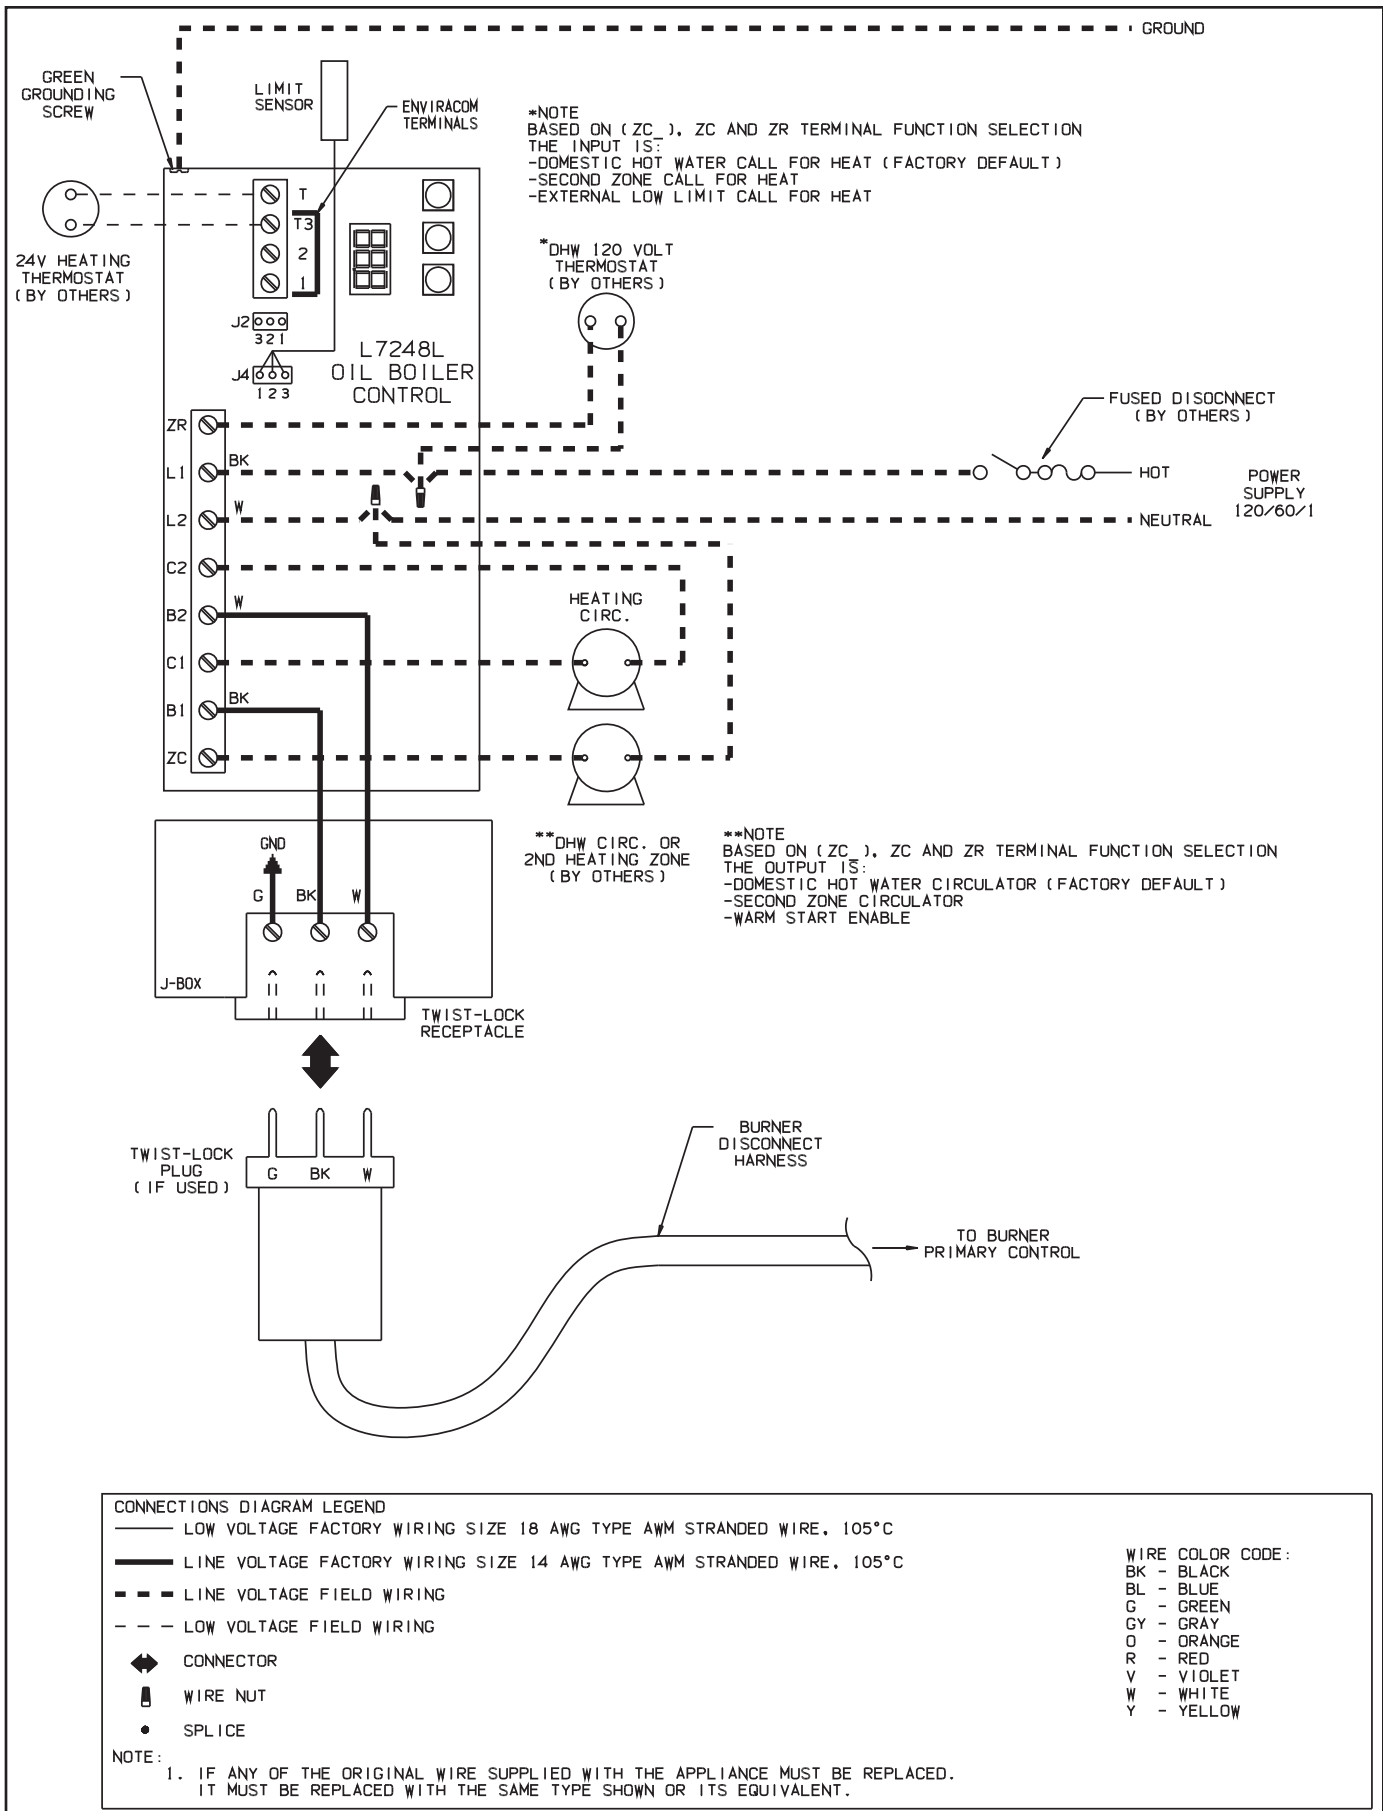

FIGURE 10.0: CONNECTIONS DIAGRAM, BOILERS LESS TANKLESS HEATER, COLD START CONTROL
1) 120 Volt Wiring - The boiler should be provided with its own 15A branch circuit with fused disconnect. 120VAC power connections are made inside the L7248L cold start control or the L7224A warm start control as follows (also see Figures. 10.0 thru 10.2):
2) Low Voltage Connections – Low voltage field connections are located as shown in Figure 10.0 and 10.1 and are as follows:
3) Adding a Second Circulator Zone - The control provided on TWZ boilers can be used to control a second heating or DHW circulator zone. If this is done, make the following 120VAC connections in addition to those described above (also see Figures 10.0 or 10.1):